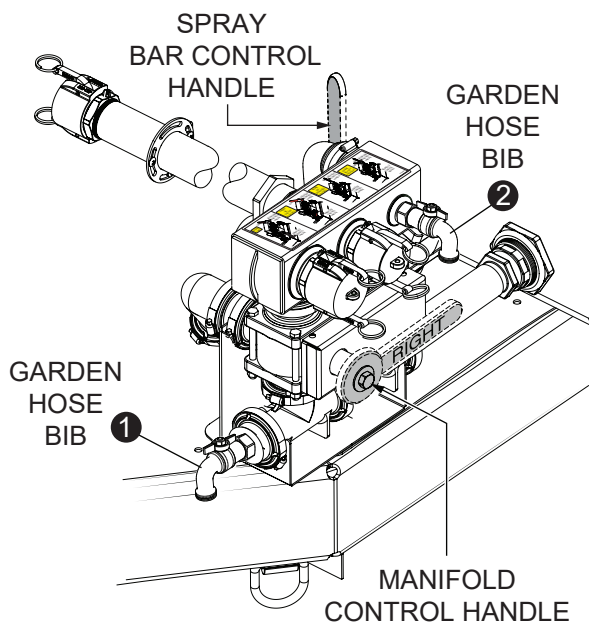
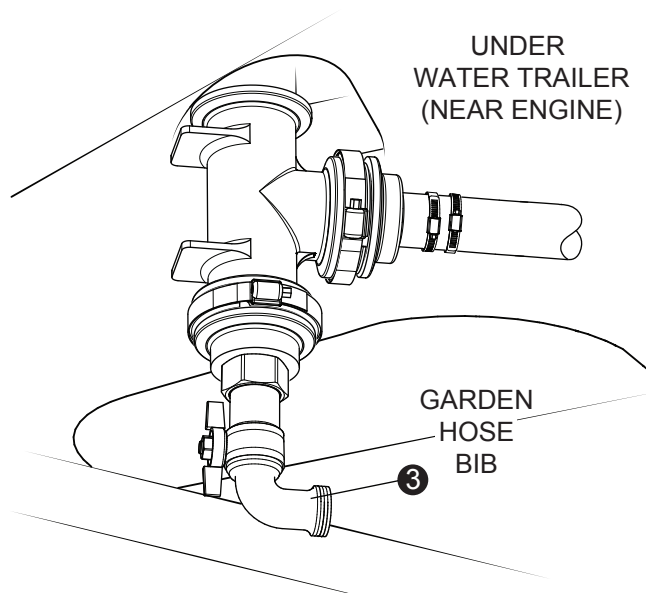

Figure 24. Control Handle Positions And Garden Hose Bib Locations
Figure 25. Third Garden Hose Bib Location
4. Place the manifold control handle in the horizontal/right position (Figure 24).
5. Place the spray bar control handle in the vertical position (Figure 24).
6. Locate and open all three garden hose bibs. See Figure 24 and Figure 25.